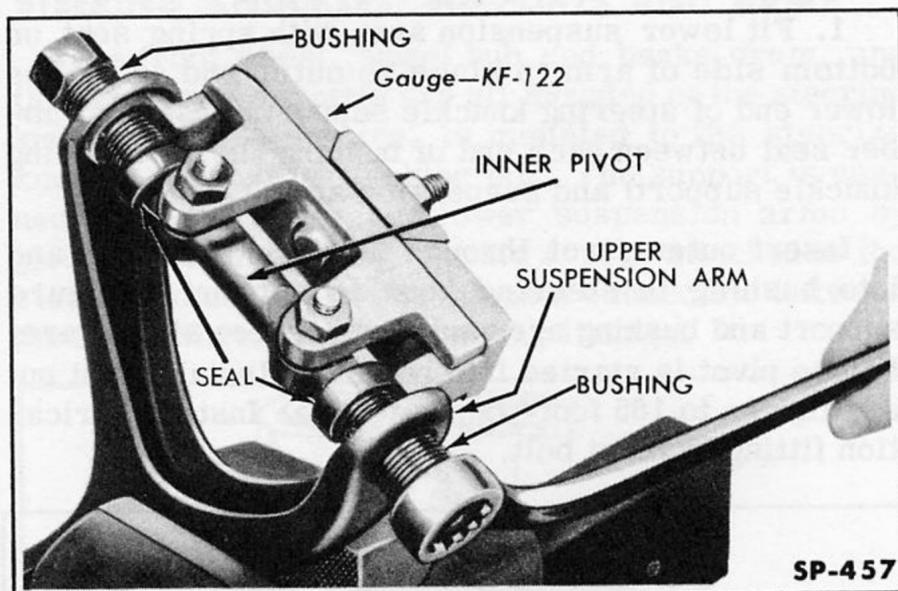

Fig. 160—Installing Upper Suspension Arm Inner Pivot
2. To install inner pivot, place new rubber seals on each end of pivot with cupped side out. Fit pivot into upper suspension arm. Mount arm in a vise as shown in Fig. 160.
4. Assemble Upper Suspension Arm Gauge KF-122 on pivot as shown in Fig. 160. This gauge establishes proper spacing between sides of the arm. Tighten wedge plate bolt to expand jaws of gauge until they spread sides of the arm 1/16 inch from normal position. This amount of spreading should provide proper spacing between sides of suspension arm.